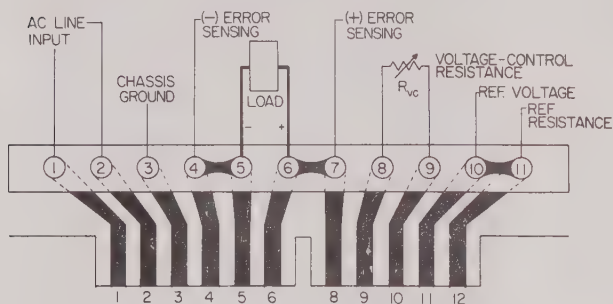

FIG. 2-1 PBX POWER SUPPLY, TERMINATIONS
### 2-3 TERMINATIONS (Refer to Fig. 2-1)
**NOTE:** In the following instructions reference is made to the barrier terminals only. See Fig. 2-1 for correlation between barrier strip terminal numbers and printed circuit connector pin numbers.